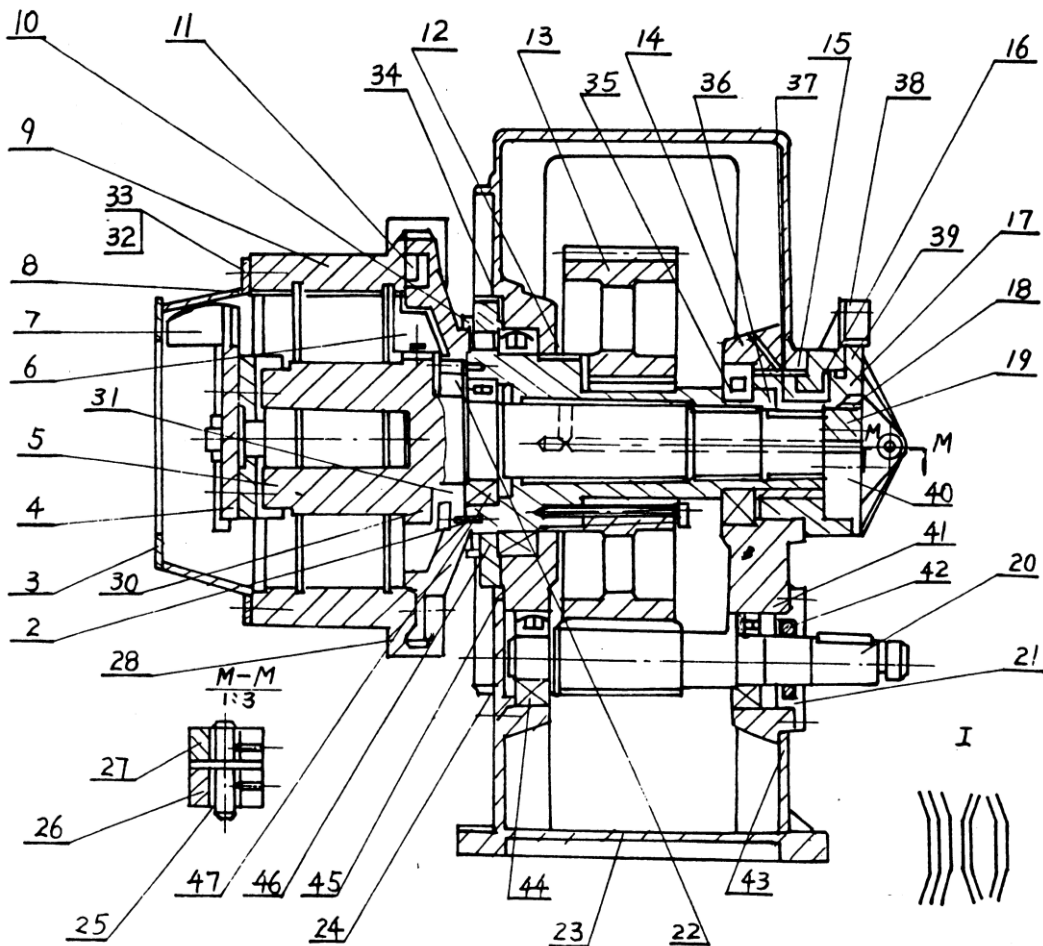

Figure 7 MAIN GEARBOX STRUCTURE
See Figure 7 for the structure of gearbox which consists of pinion shaft (20), main gear (13), main shaft (5), quill shaft, gearbox body, bearing etc. A motor drives pinion shaft to rotate through flexible coupling and meshes with driven gear so that the quill shaft (8) is driven to rotate. The quill shaft is fixed with die by clamp
(28) and driving key (11), thus the die is driven to rotate.